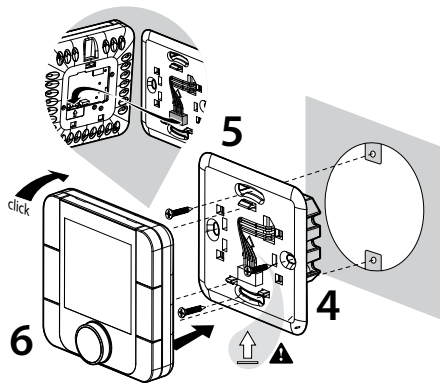

Fig. 6
- 对AT*****C*类型如图6方式插入螺钉；
- for models AT*****C* insert the screws as shown in Fig. 6 and 7;